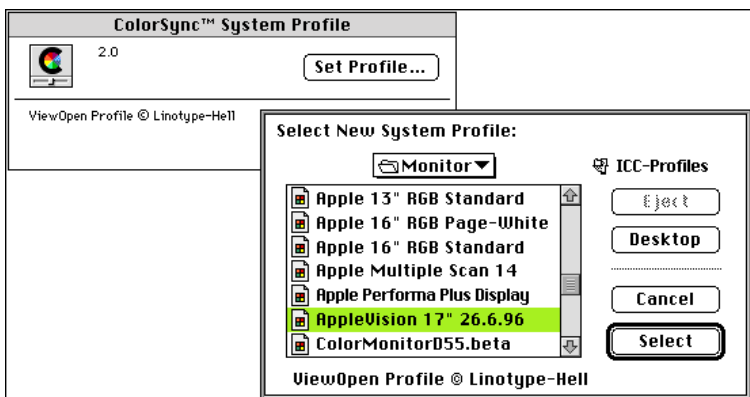

Fig. 10: Selecting the correct profile for your monitor
- Open the **ColorSync System Profile** control panel and activate your profile repository using the **Set Profile...** button. Select your monitor profile as shown in figure 10.
By default the **Set Profile...** button selects the “ColorSync Profile” folder located in the “Preferences” folder of your system folder, but we recommend to use your “ICC-Profiles” repository, even for monitor profiles. In figure 10, the system profile is selected from the “Monitor” folder of the “ICC-Profiles” server volume.
We consider the standard profiles delivered by Apple to be rather poor. You will achieve better results by measuring the monitors and generating your own monitor profiles. In figure 10, we have selected a profile which was generated for a specific AppleVision 17” monitor.